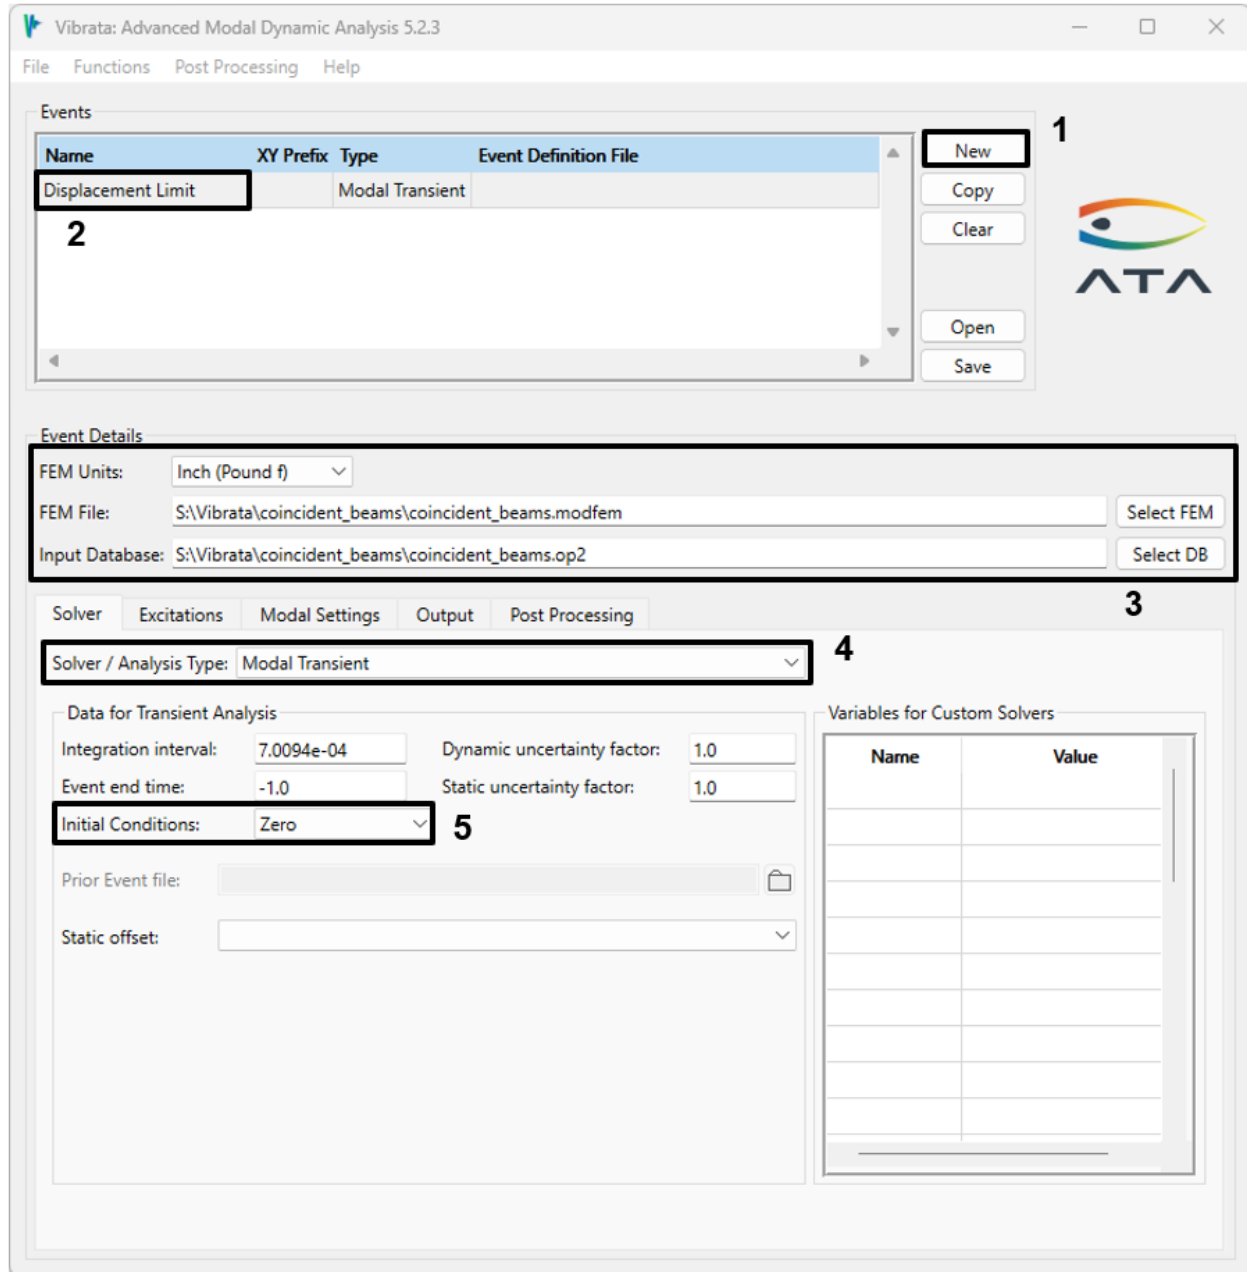

Figure 4-124. Solver setup for frame model transient analysis.
2. In the Event Manager, set up a new transient event and select the concentric beam's modfem file and the OP2 file "coincident_beams.op2." Set the event name to "Displacement Limit." Set the initial conditions to Zero, as shown in Figure 4-124.